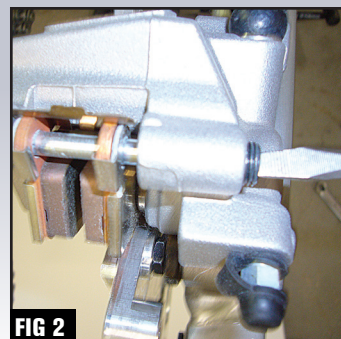
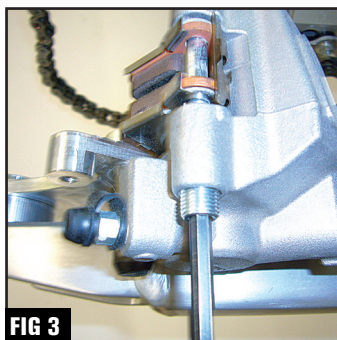

FIG 2
FIG 3
- 3** Remove brake pin access plug using a flat blade screw driver (except on 1711-0045). (Fig 2) Remove brake pin with a 5mm Allen wrench or 8mm socket depending on your model (on 1711-0045 remove the two brake pin retaining clips). (Fig 3) Remove rear brake pads.